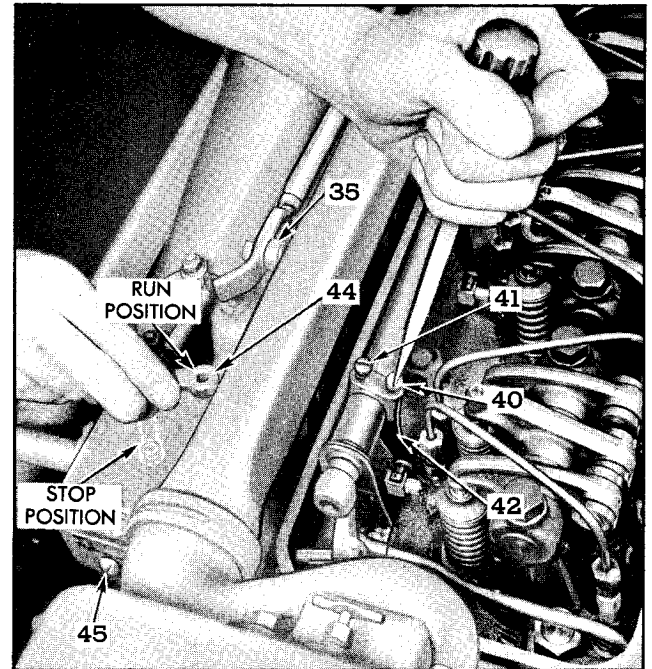

Fig. 10—Positioning Injector Control Racks.
2. If a load-limit screw is used in place of screw (45), Fig. 10, loosen the locknut and back the load-limit screw all the way out.
3. Loosen inner (40) and outer (41) adjusting screws of all injector rack control levers (42) approximately three full turns. Be sure all levers swing freely on the injector control tube.
4. Secure the variable speed control lever (35) in the "full-speed" position (all the way back) and place the governor control lever (44) in the "off" position. The injector rack control lever for No. 1 cylinder must be adjusted first in order to establish the proper relationship between the governor and the injector rack control tube.
5. Turn down inner adjusting screw (40) on No. 1 injector rack control lever until the screw **JUST** bottoms.
6. Move the governor control lever (44) toward the "RUN" position. Do not force it past the point at which resistance to movement increases but hold it at this point, pressing lightly toward the "run" position.